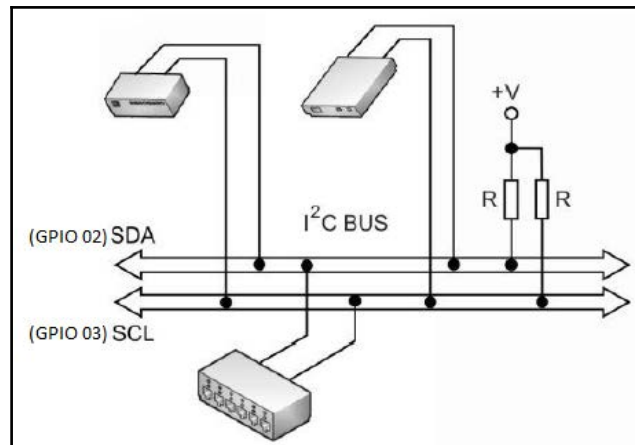

Figure 2.3
- **I²C**: Since Raspberry Pi has a limited number of GPIOs, we might need more I/O pins in the case of measuring systems. To overcome this, I/O expander chips are used and interfaced with the I²C pins/bus of Raspberry Pi. I²C allows multiple devices to connect to the same bus. Refer to *Figure 2.3*. Two dedicated pins are provided in Pi **GPIO02** and **GPIO03** (refer to *Figure 2.2*). **GPIO02** is an SDA, which is the data line, and **GPIO03** is SCL, which is a signal used to synchronize all data transfers via the I²C bus: